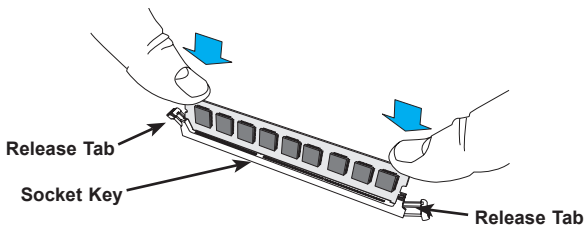

Figure 5-3. DIMM Installation
2. Push the release tabs outwards on both ends of the DIMM slot to unlock it. Insert each DIMM module vertically into its slot. Pay attention to the key along the bottom of the module to avoid installing incorrectly (see Figure 5-3).